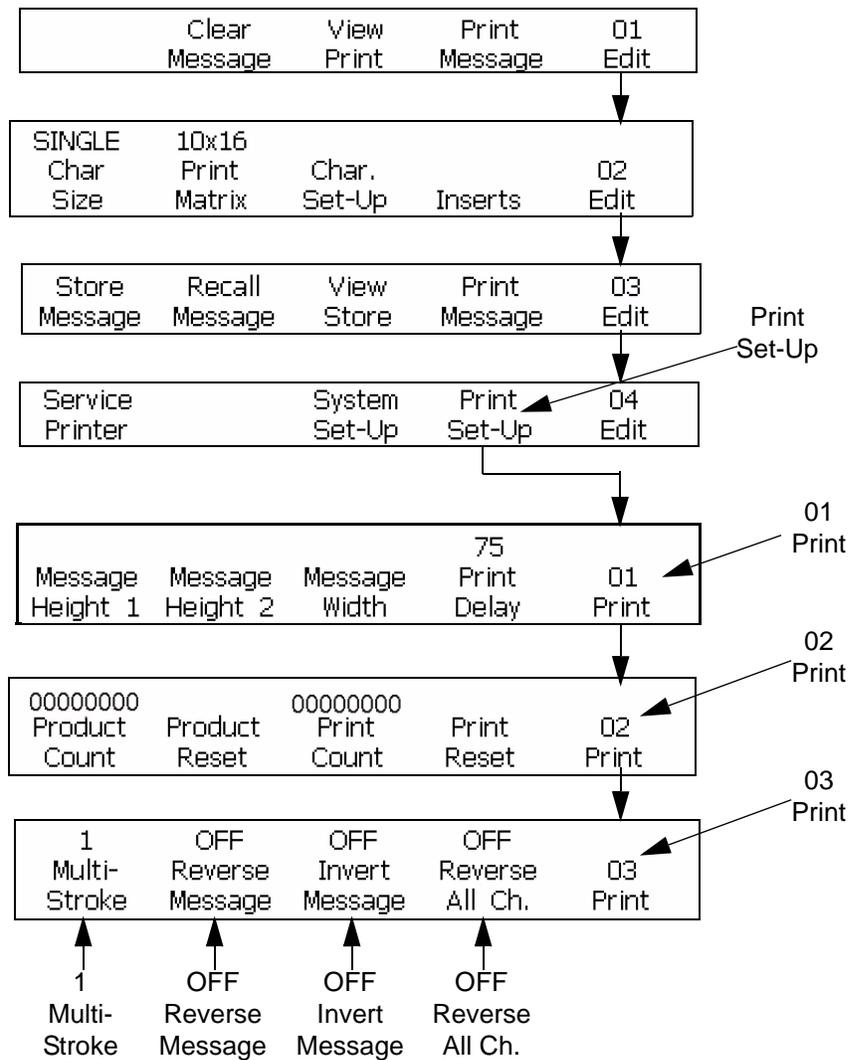

Figure 6-13: Accessing Frame <03 Print>
Figure 6-13 on page 6-16 shows the frames used in this section.
- 2 Begin in the Frame <03 Print>. Refer to Figure 6-13 on page 6-16.
- 1 Begin in the Frame <03 Print>. Refer to Figure 6-13 on page 6-16 for information on how to access the Frame <03 Print>.